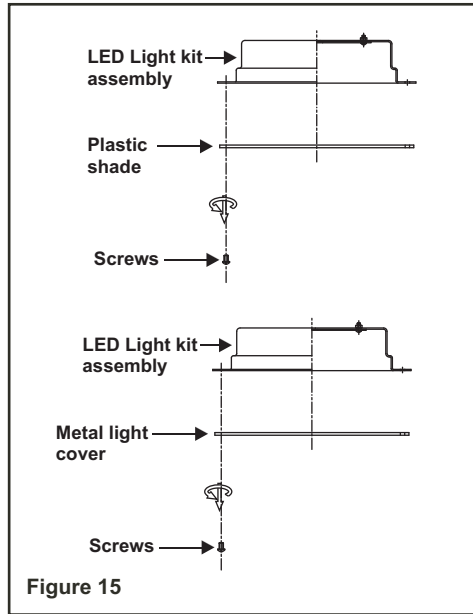

Figure 15
1. Disassemble the plastic shade from the light kit. You can keep the plastic shade for future use. (Fig. 15)
2. Installing metal light cover to the LED light kit with the two screws previously removed. (Fig. 15)